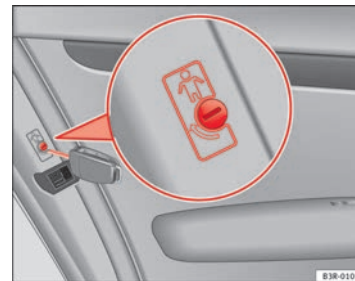

Fig. 77 Childproof lock on the rear doors
- Turn the key in the direction of the arrow ⇒ Fig. 77.